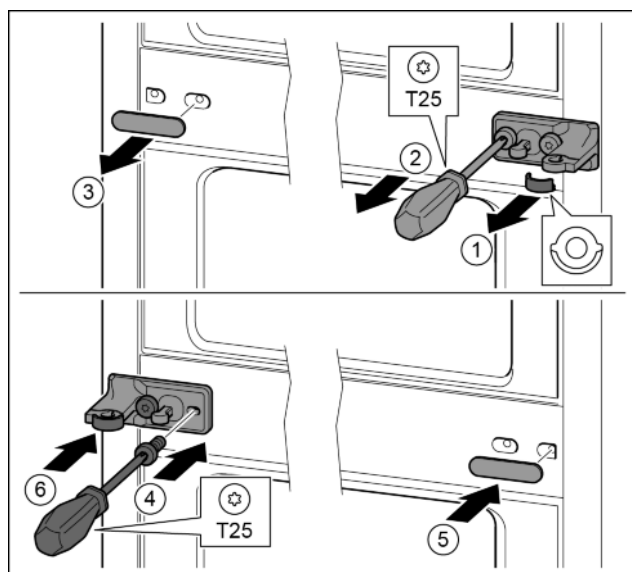

Fig. 27
- Remove the disc. Fig. 27 (1)
- Remove the screws with the T25 screwdriver. Fig. 27 (2)
- ▶ Remove the cover carefully. *Fig. 27 (3)*
- ▶ Screw the bearing bracket and the film rotated 180° firmly onto the other side. *Fig. 27 (4)*
- ▶ Attach the cover rotated 180° onto the other side. *Fig. 27 (5)*
- ▶ Push the disc in from the front. *Fig. 27 (6)*